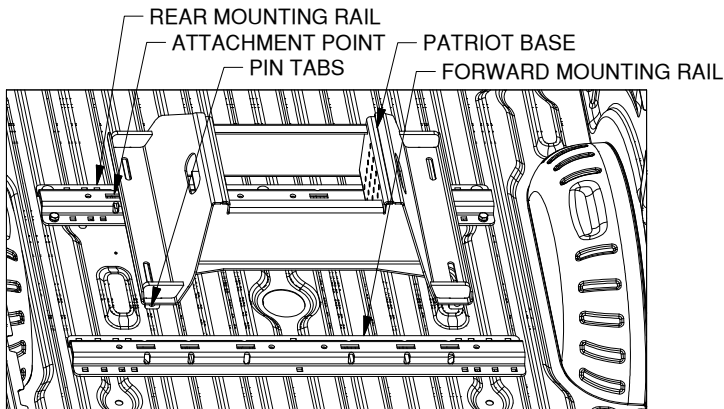

Figure E1: View into truck bed looking toward tailgate.
- 1. Position the forward mounting rail.** For this step the base which will be used in the mounting rails is required. Place a mounting rail into the truck bed in front of the rear mounting rail. Place the base over the rail attachment points and carefully lower it until the pin tabs pass through the attachment points on the rear mounting rail. Attach the forward mounting rail to the forward mounting points on the base. The base should rest flat against the top of the rails, see Figure E1. With the base still attached ensure that the forward rail is centered in the truck bed.